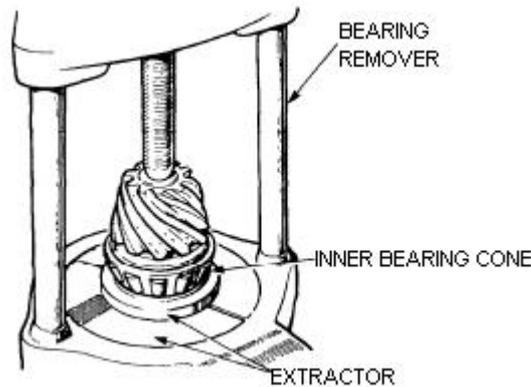

Figure 219 Installing the Pinion Inner Bearing Cone
- e. Using the extractor and bearing remover (Table 3, Serial 52 and 38), press the inner bearing cone onto the pinion shaft (Figure 219).